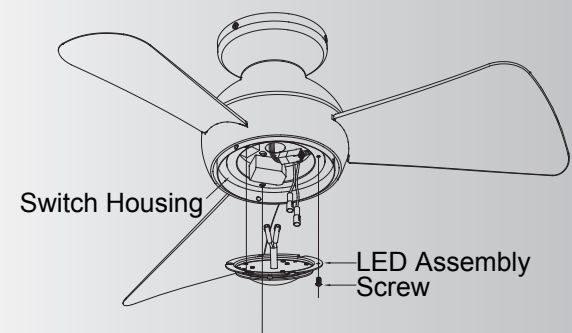

Fig. 15a
Step 7. for use with light kit Connect the 2 single-pin connectors from the switch housing to the 2 single-pin connectors from LED assembly. Assemble the LED assembly to the switch housing using the two key slots. Replace the third screw removed in step 4 and securely tighten all three screws. (Fig. 15a)